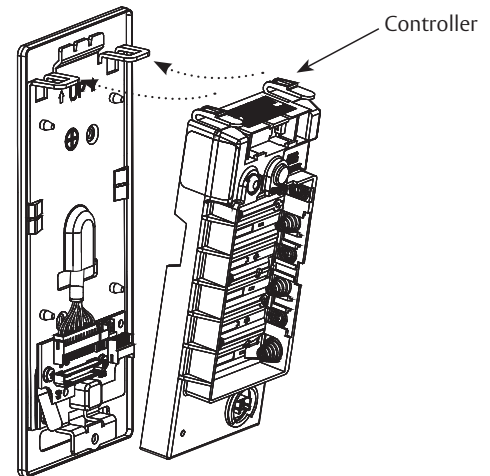

Fig. 7
- a. Insert bottom tab of controller, making sure path is clear, into slot on mounting plate. (Fig. 7)